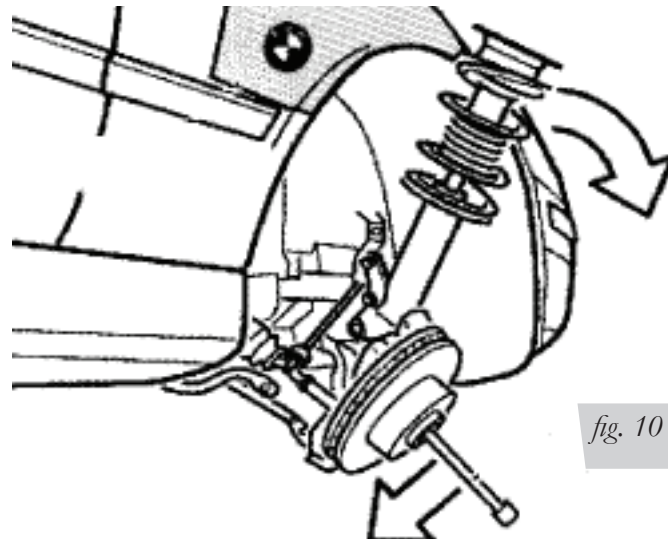

fig. 10
5. Lower the strut and pull outside the vehicle body (fig. 10). Be careful not to damage the fender!